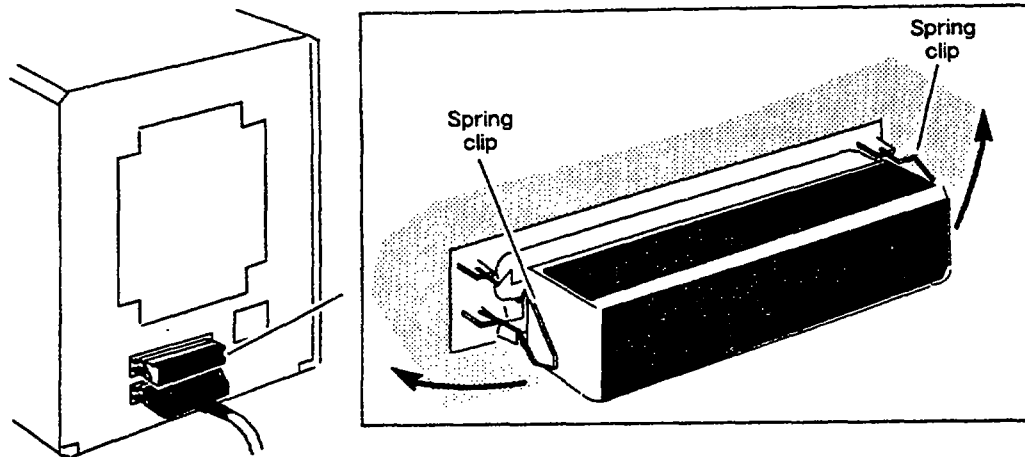

Figure 4-7 Disconnecting the SCSI Bus Terminator Plug
2. Release the spring clips on each side of the terminator plug, as shown in Figure 4-7, and remove the terminator plug from the SCSI bus connector. Insert the replacement terminator plug back into the same connector, and close over the two spring clips to hold the replacement terminator plug in place.
2. Refer to Figure 4-7, and release the spring clips on each side of the terminator plug. Remove the terminator plug from the SCSI bus connector.